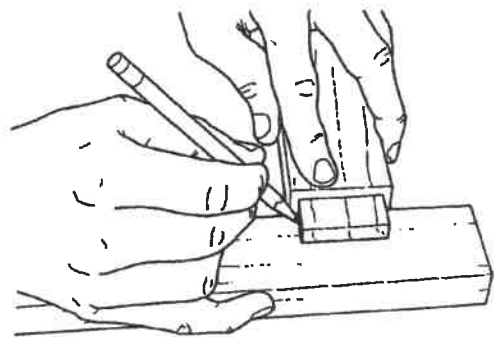

Fig. C-10
13. With a sharp pencil, mark the width of the tenon on the face of the mortise stock, as in Fig. C-10. The depth of the mortise is already set by the bit's depth of cut.